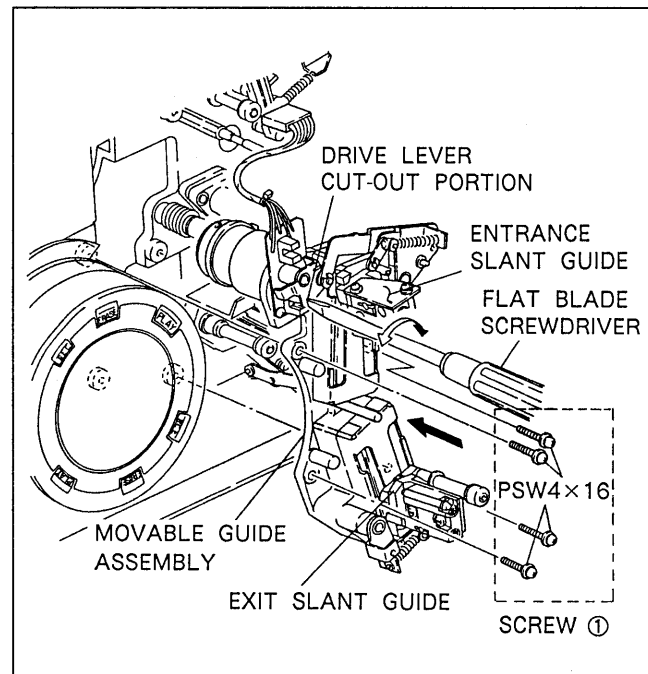

Fig. 6-4-7. Movable Guide Assembly Installation
8. Confirm that the entrance and exit slant guide blocks of the movable guide assembly are opened as shown in Fig. 6-4-7.